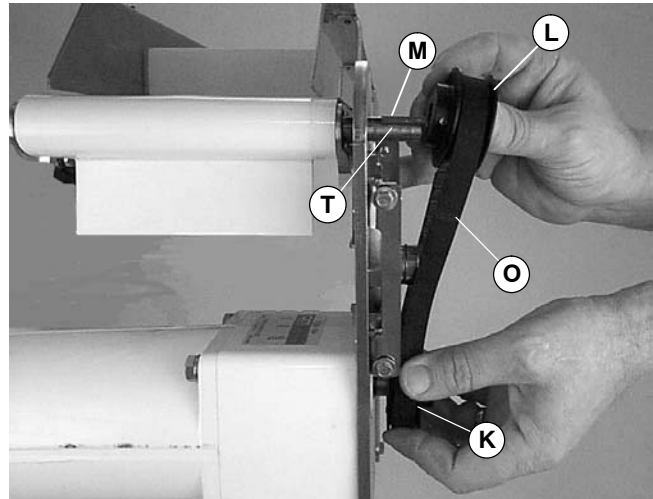

Figure 6
**NOTE:** Figures 6 and 7 show timing belt installation on a 7200 Series conveyor. Installation on a 7300 Series conveyor is similar.
5. Install key (M of Figure 6) on conveyor input shaft (T).